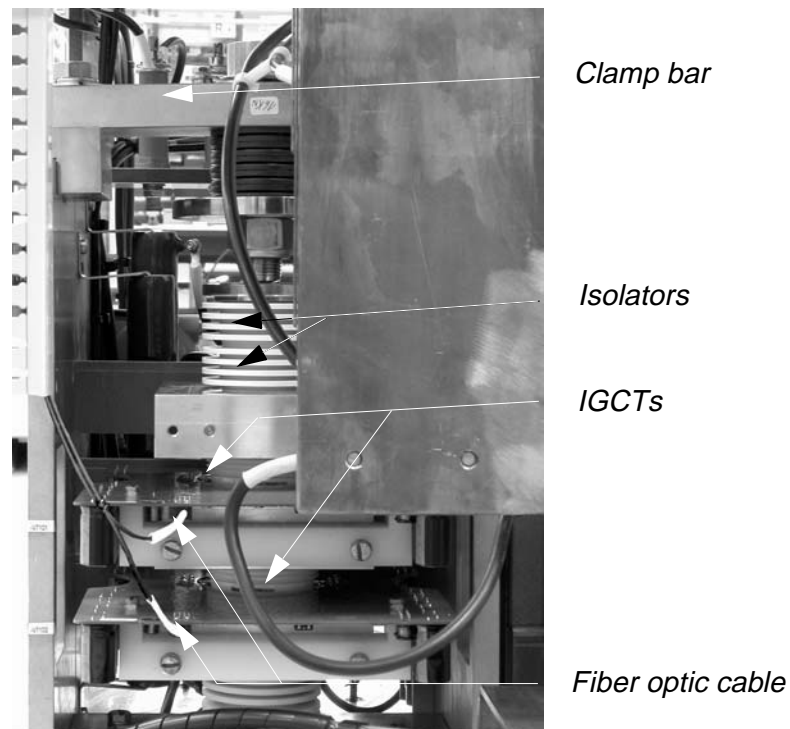

Figure 11-1 Front View of DIU
- 2 Disconnect the fiber optic cable (see *Figure 11-1*) and the power supply lead (not shown in *Figure 11-1*) of the IGCT to be replaced.